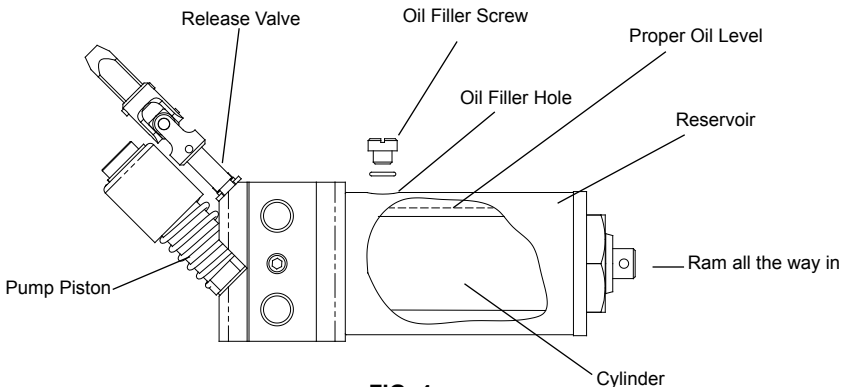

FIG. 4
- Remove the oil filler screw from the cylinder. (see Fig. 4)
- Check ram and pump piston (see Fig. 4) every few months for any signs of rust or corrosion. Clean as needed by wiping with an oily cloth.